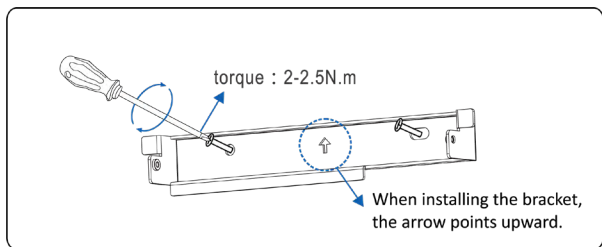

Figure 4.13 Installing the real panel
Step 5 Align the rear panel with the holes, insert expansion bolts into the holes through the rear panel, and tighten the expansion bolts to a torque wrench (torque 2-2.5 N·m), as shown in **Figure 4.13**.